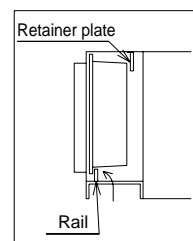

Fig.6
- (3) Push the filter up attach to rail. (Fig. 6)
- (4) Complete by replacing the bottom plate removed in Step (1).